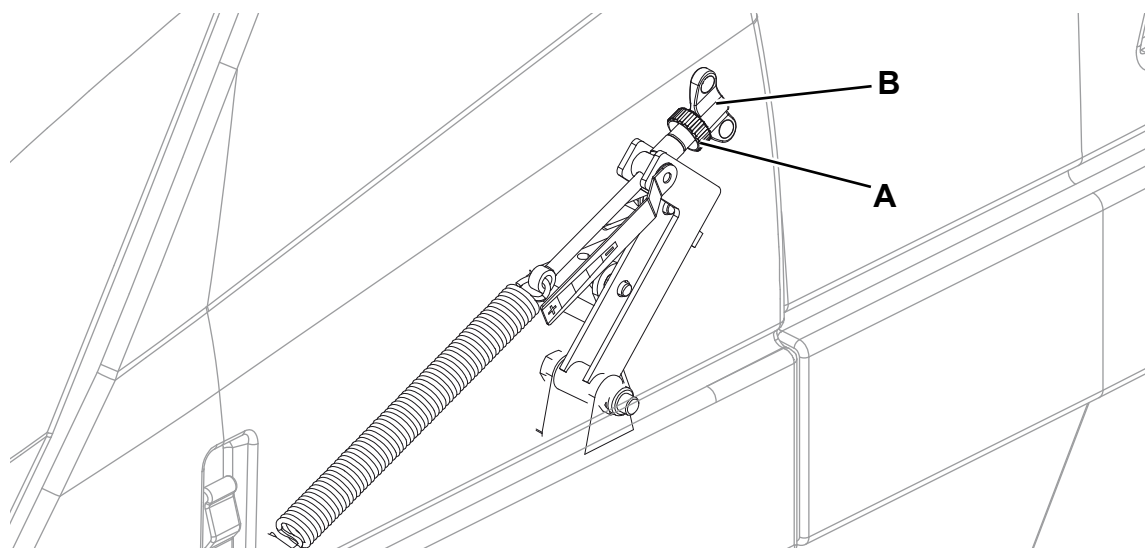

Figure 3
3. Turn the ignition key (65) and start the machine.
4. Lower the main broom with the lever (53) and let it run for 1 minute.
7. To adjust, open the engine compartment hood (1) by using the unlocking push-button (25), loosen the knob (A, Fig. 3) and operate on the main broom adjuster (B) by considering the following:
- When turning counter-clockwise, the main broom pressure and polish strip is increased.After adjusting, lock the adjuster with the knob (A).